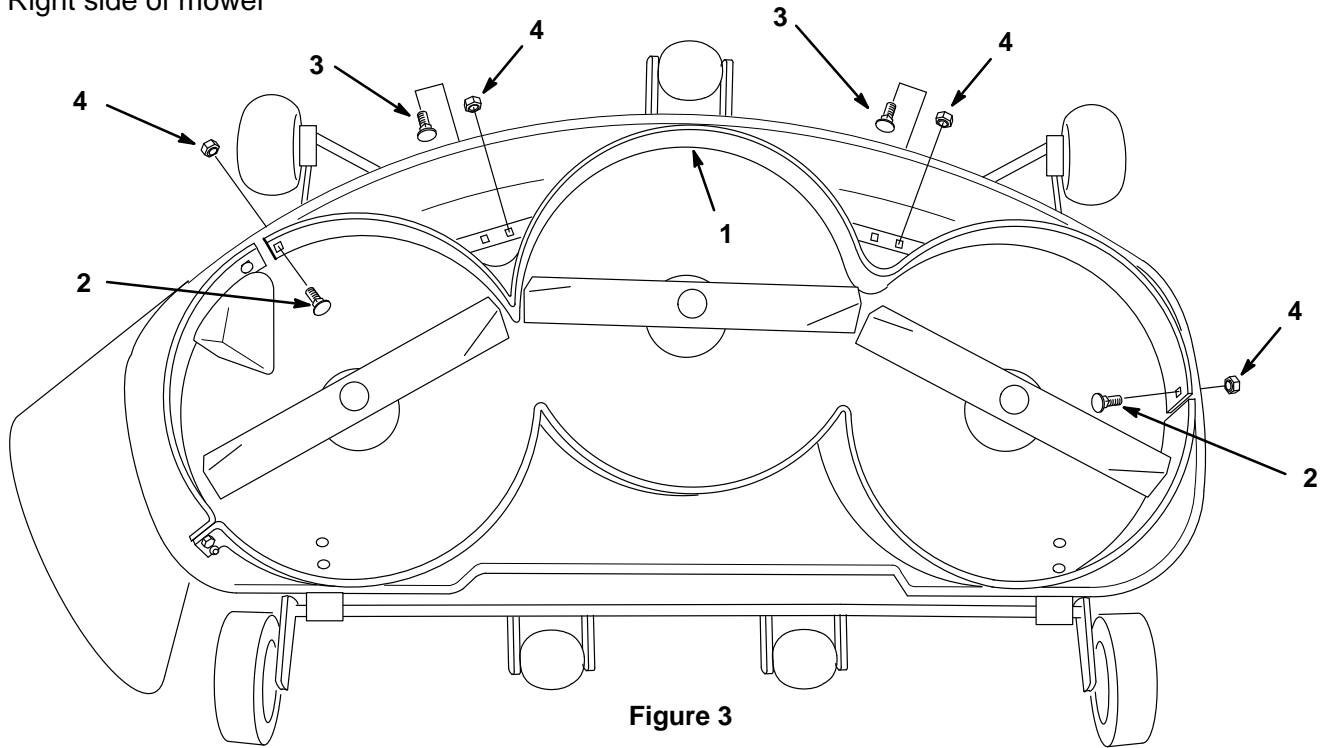

Figure 3
2. Place front baffle inside mower and align with mounting holes (Fig. 3).
3. Place (4) 5/16-18 x 3/4" (19 mm) carriage bolts with heads on the inside of the ends and on top at the mounting brackets as shown (Fig. 3). Secure with 5/16" locknuts (Fig. 3).